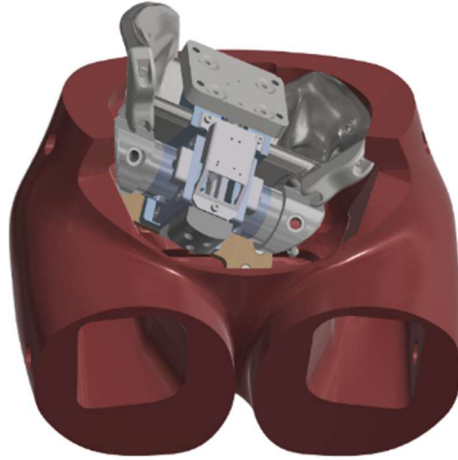
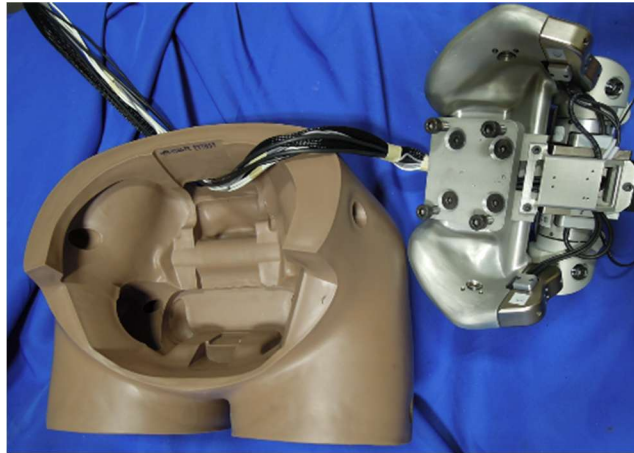

Figure 8-8. Remove the Pelvis from the Pelvis Flesh (474-4521-A)
Figure 8-9. Remove the bundle of pelvis wires from the back of the pelvis flesh
- 8.2.5 Remove the Pelvis from the Pelvis Flesh (474-4521-A) (Figure 8-8). Remove the bundle of pelvis wires from the back of the pelvis flesh (Figure 8-9).